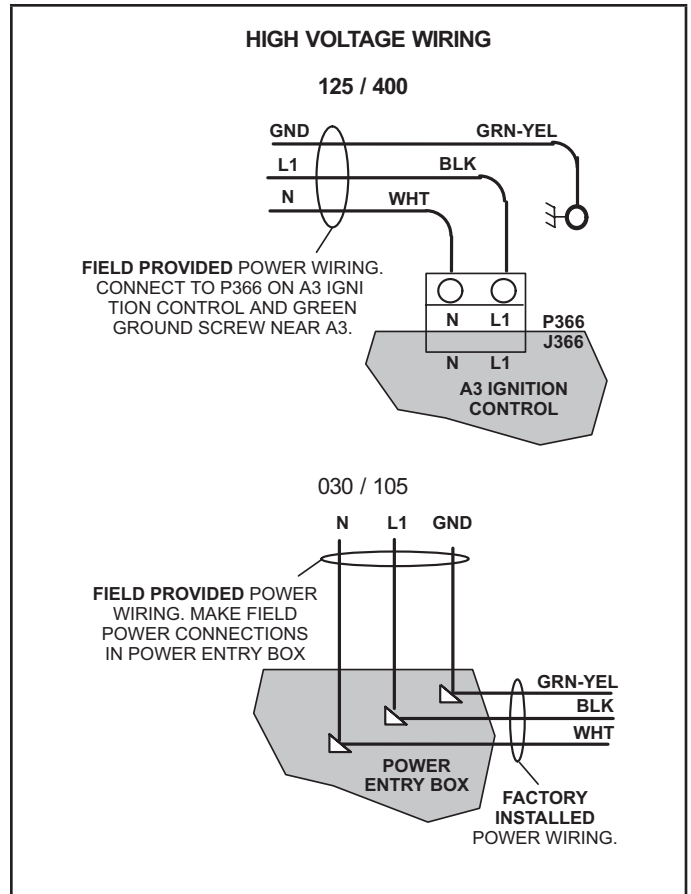

FIGURE 11
- 2 - Make line voltage connections as shown in figure 11. On 030-105 units, use pigtailed provided in power entry box. On 125-400 units, connect wires to 2-pin P366 plug located on the A3 ignition control board. For ease of installation, disconnect P366 plug from J366, make wire connections, and replace P366. Refer to wiring diagram on unit and the appropriate typical diagram in this manual.